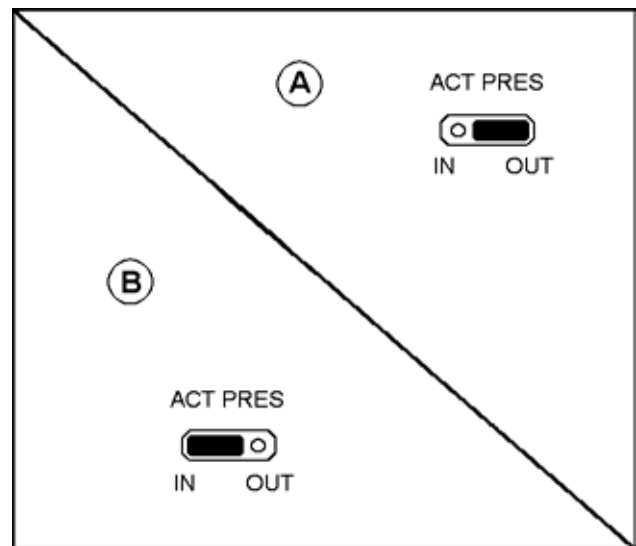

Figure 11: Actuator jumper position
2. Position the jumpers to select the actuators as shown in Figure 11 below.